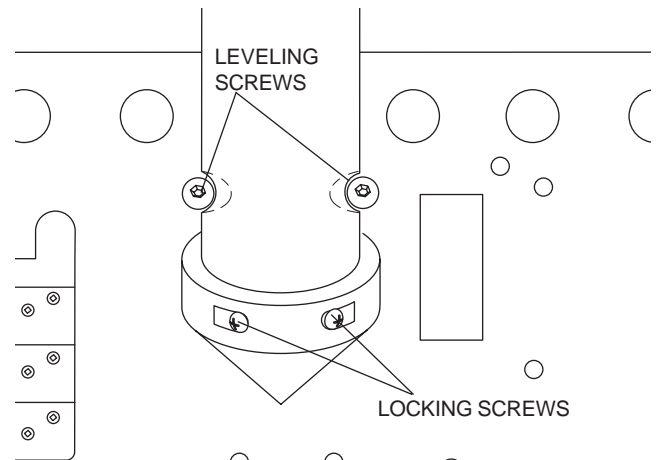

FIGURE 4
2. Using a 1/8" hex key, loosen the two locking screws located underneath the control head (see Figure 4).
3. Level the control head using the two leveling screws, use a 1/8" hex key (see Figure 4).